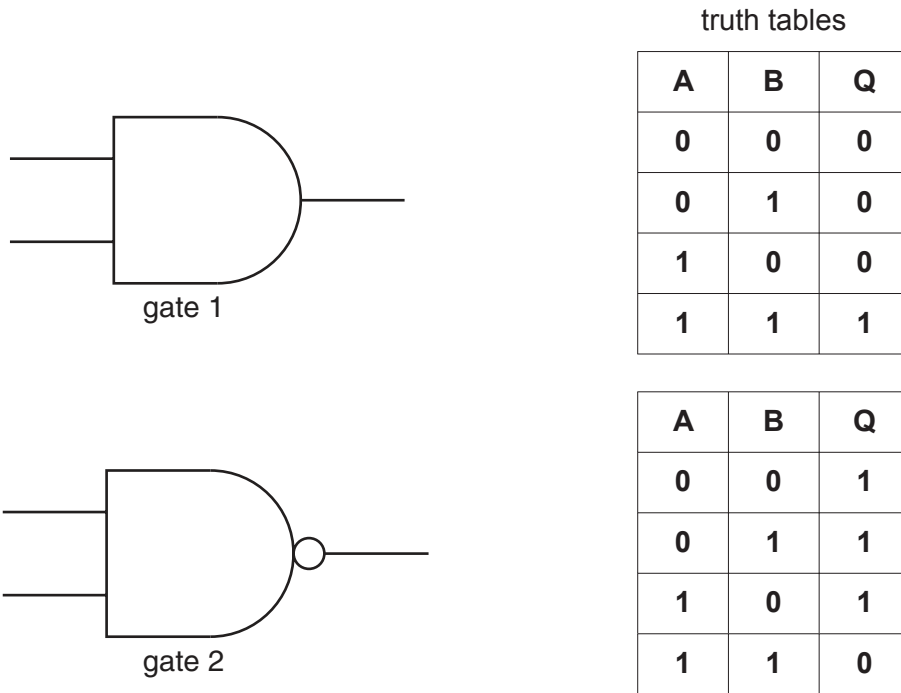

Fig. 7
- (f) Another method of controlling systems is to use logic circuits. Fig. 7 shows logic gate symbols and their truth tables.